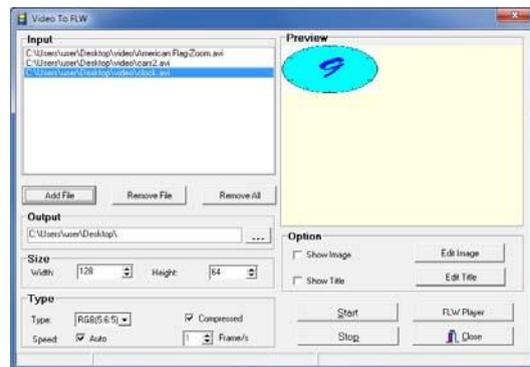

Figure 5.39 Video to FLW conversion interface
Edit : As Fig. 5.39 shows, click “Edit” and you will open Logo Editor, the function of which is similar with Sigma Editor. It is simplified version of Sigma Editor. For more details please refer to Chapter 2.
The Figure 5.39 shows an interface of a video file converted into the FLW mode. ① is the animation file preview window; ②is the modification or setting window; ③is the animation file conversion and simulator display window; ④is the animation file conversion ratio setting window; ⑤is the animation size setting window; ⑥is the animation file output window; ⑦ is the